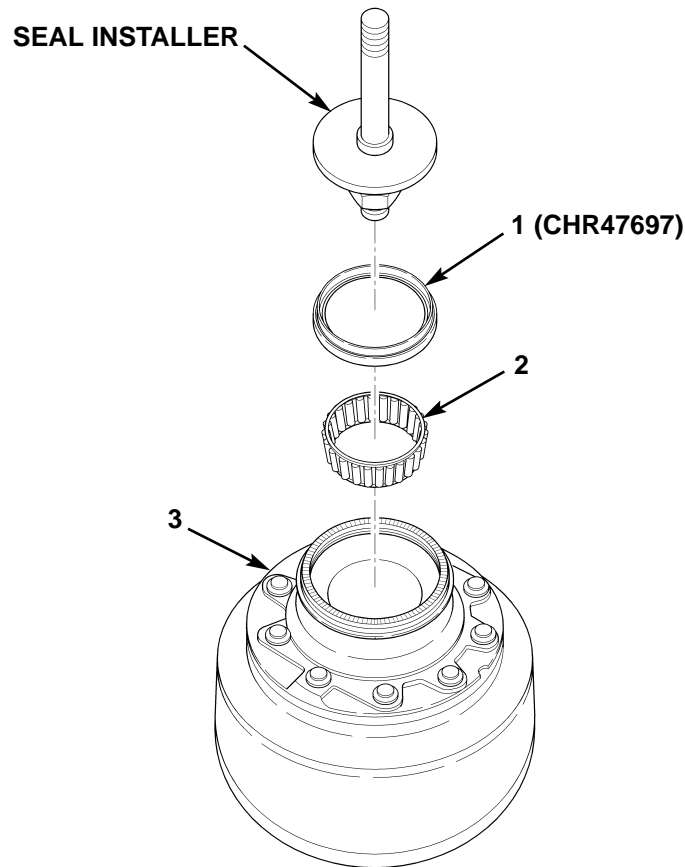

Figure 15. Installing Inner Bearing Cone and Seal.
20. Apply grease to inner bearing cone (figure 15, item 2), and set inner bearing cone (figure 15, item 2) on inner cup in rear hub (figure 15, item 3).
21. Apply sealant to outside edge of new seal (figure 15, item 1), and position seal (figure 15, item 1) on rear wheel hub (figure 15, item 3) with tapered side of seal facing up.
22. Using seal installer, drive seal (figure 15, item 1) into shoulder bore of rear hub (figure 15, item 3) until fully seated.